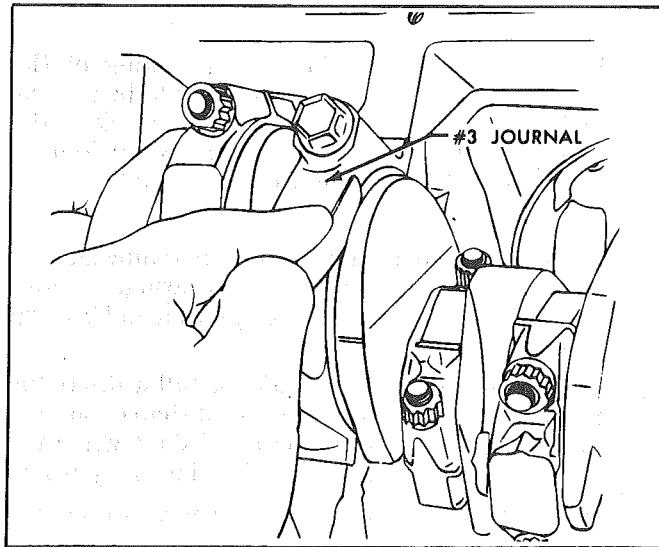

Figure 6A2-25 Measuring Crankshaft End Play
9. Measure crankshaft end play (see specifications) by forcing the crankshaft to the extreme front position. Measure at the front end of the #3 main bearing with a feeler gage (Figure 6A2-25).